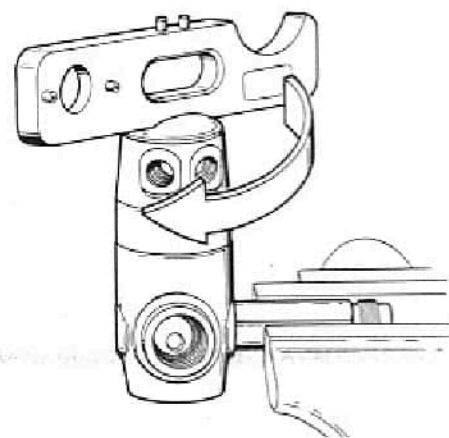

Fig. 14 - Swivel Retainer Installation
20. Apply the No. 3 Spanner to tighten the swivel retainer further until completely snug (see Fig. 14).